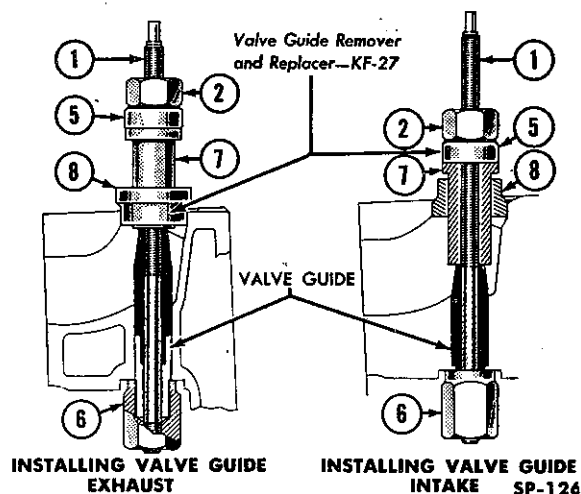

FIG. 63—INSTALLING VALVE GUIDE IN CYLINDER BLOCK
To replace a valve guide, place the guide (tapered end toward the top of the block) in the proper position in the bore. Assemble Valve Guide Remover and Replacer KF-27 as shown in Fig. 63, using the collar (8) with the proper end set into the valve port bore as required, and the recessed nut (6) at